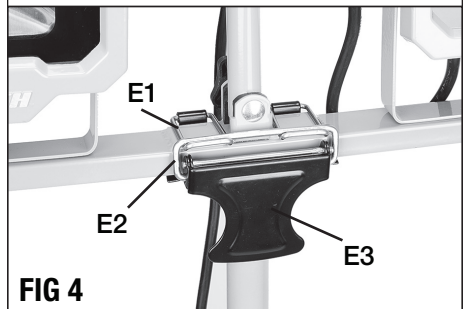

FIG 4
## ATTACHING THE WORK LIGHT ASSEMBLY TO THE TRIPOD (FIG 4)
2. Use the bracket locking system (E1, E2 and E3) to secure the work light assembly to the tripod as shown in FIG 4.